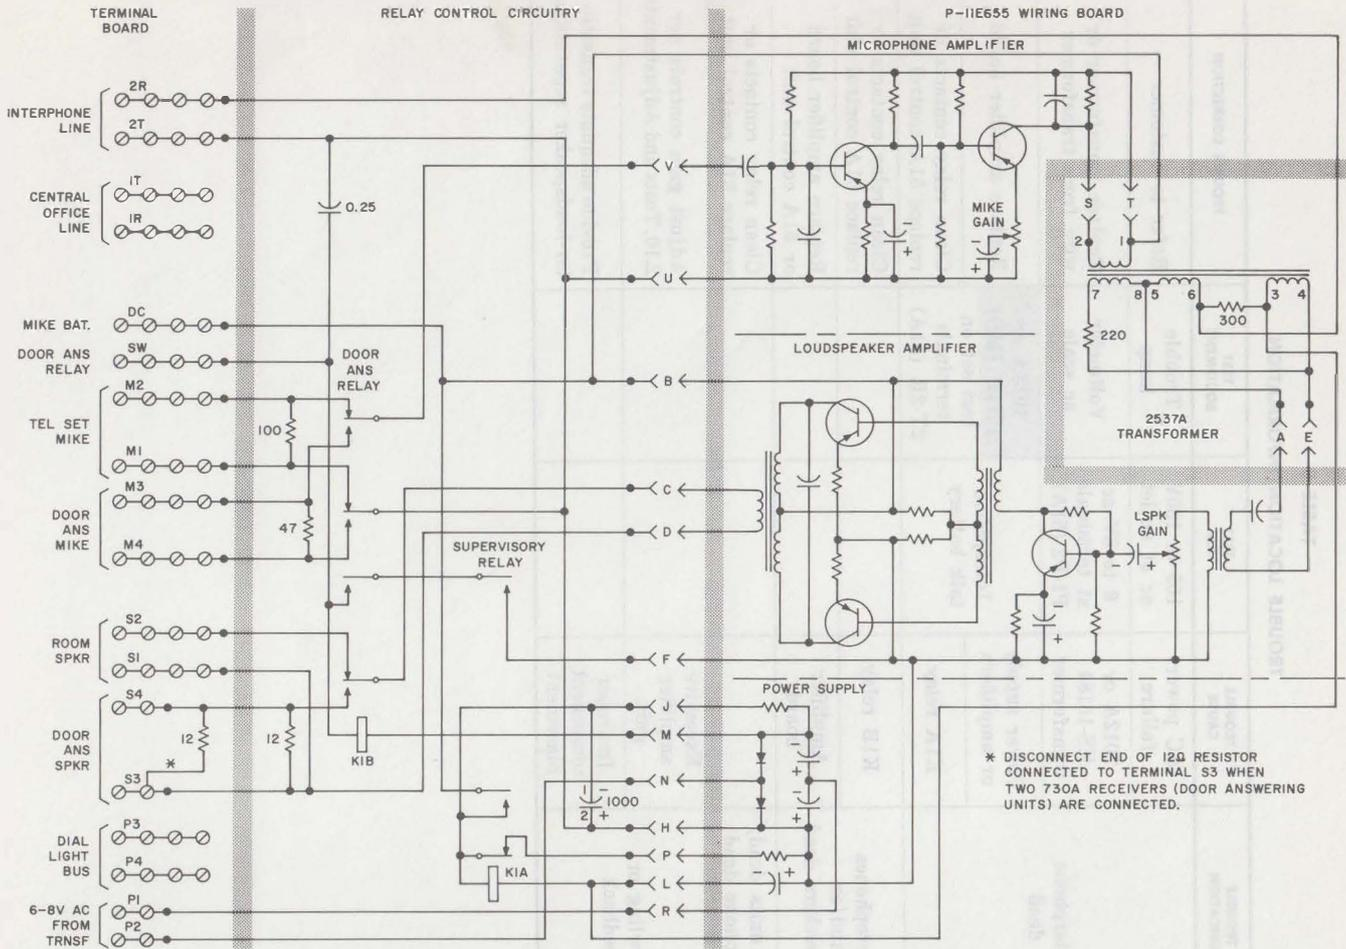

Fig. 6—51A Control Unit
- (c) Make connections as shown in Fig. 6 and appropriate connections and maintenance section and replace cover.
3.07 For test purpose; the relays in the 51A control unit (Fig. 6) operate as follows: